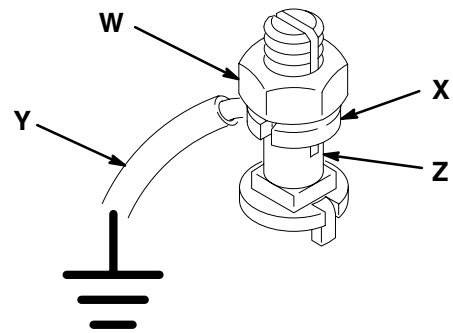

Fig. 6
1. Connect the static ground wire (Y) supplied to the ground lug on the power supply/intrinsic safety barrier. See Fig. 6. Loosen the grounding lug locknut (W) and washer (X). Insert one end of the ground wire (Y) into the slot in lug (Z) and tighten the locknut securely. Connect the ground wire clamp to a true earth ground as defined in your local code.